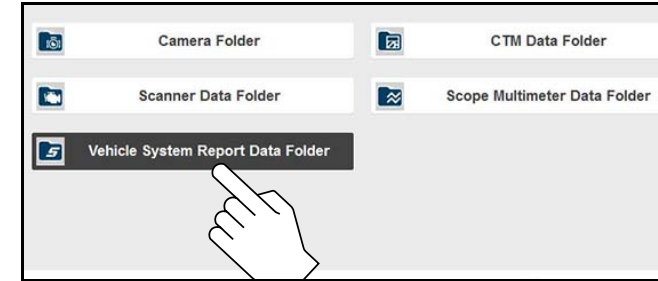

Figure 4-19
2. Select and open the Vehicle System Report Data Folder (Figure 4-19).